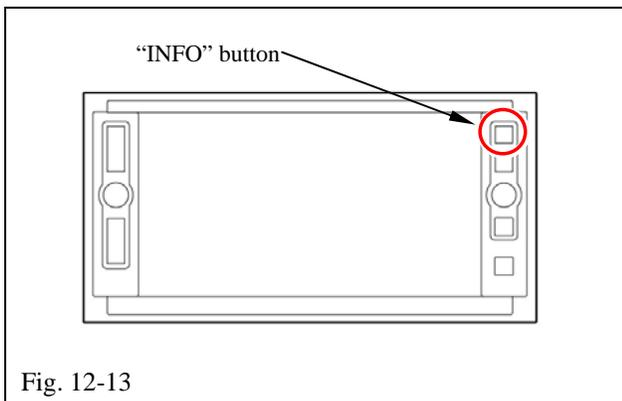

Fig. 12-13
- (1) Press the "INFO" button to change to the "Information" screen (Fig. 12-13).